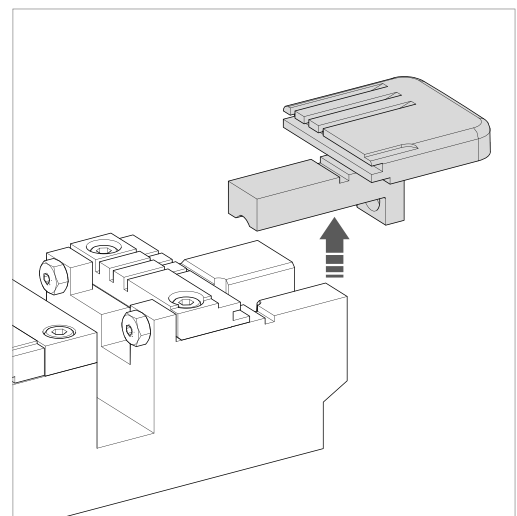

Fig. 67
- 3) Remove the mobile jaw and clean the clamp (Fig. 67).